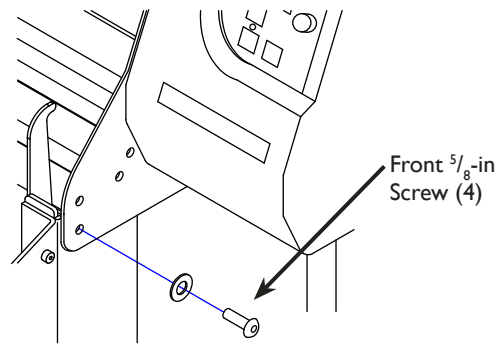

Figure 10. Loosely attach the end plates to the legs with the provided screws and washers.
3. Insert two $\frac{5}{8}$ -in button-head screws with one washer each through the holes in the front of both end plates to connect the head to the stand. Leave the screws loose (**Figure 10**).